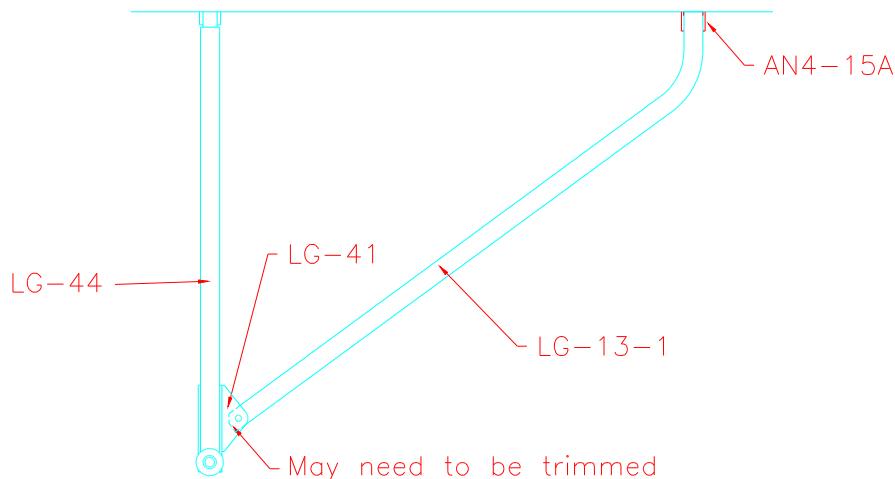

Figure 15.3.1
- 2) Put the drag struts (LG-13-1) in place and put AN4-15A bolts through fitting and strut as in Figure 15.3.1. **NOTE:** It may be necessary to trim LG-13-1 and drill a new hole at the lower location.